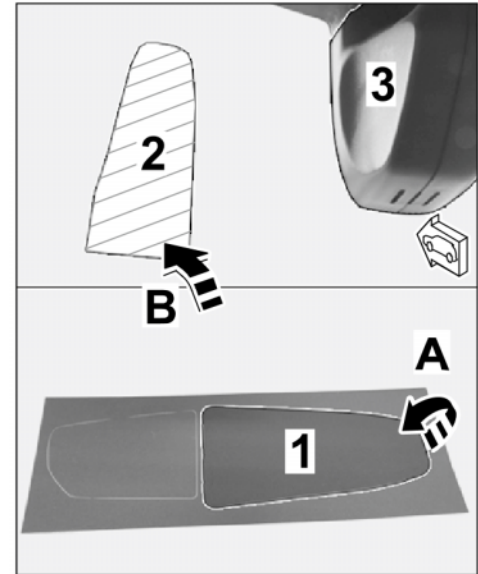

Figure 9
2.2.1 Peel backing sheet off 3M privacy film. ⇒ *Figure 9-A-*
2.2.2 Position 3M privacy film on marked bonding surface on windshield. ⇒ *Figure 9-B-*